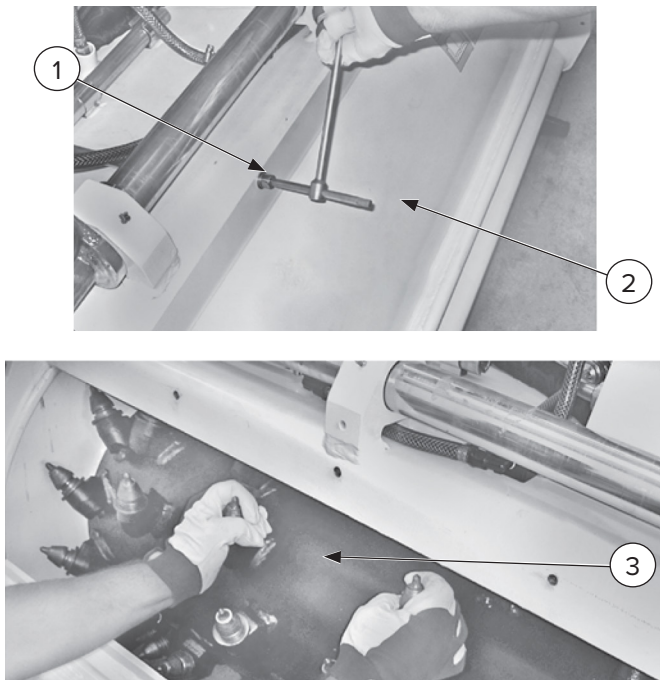

Figure 11
4. Remove the screws [Figure 11, Item 1] and open the protection guard [Item 2].